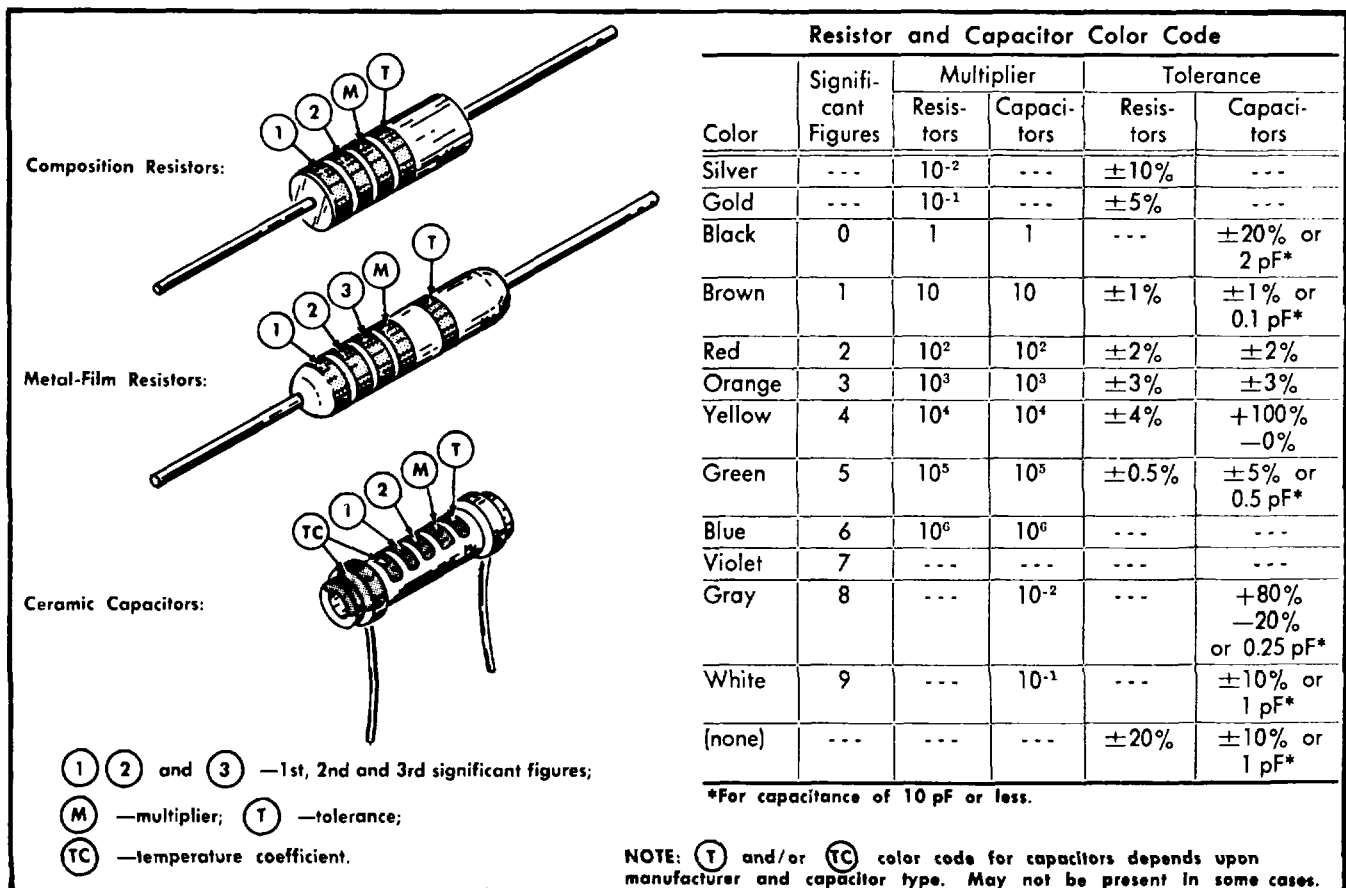

Fig. 5-1. resistor and ceramic capacitor color-code.
The color-coding sequence is shown in Fig. 5-1.
**Capacitor Marking.** The capacitance values of common disc capacitors and small electrolytic are marked in micro-farads on the side of the component body. The white ceramic capacitors used in the 7S11 are color coded in picofarads using a modified EIA code (Fig. 5-1).